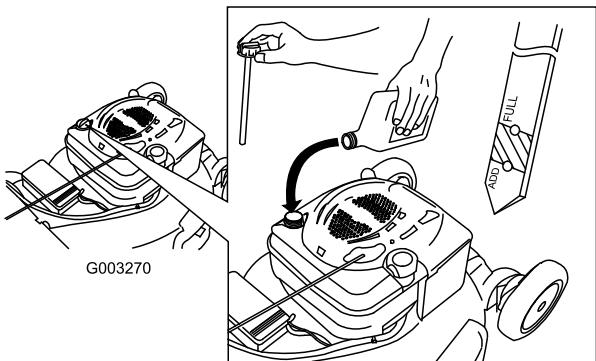

Figure 7
1. Remove the dipstick (Figure 7).
2. Slowly pour oil into the oil fill tube until the oil level reaches the Full line on the dipstick (Figure 7). **Do not overfill.** (Max. fill: 20 oz. (0.59 l), type: SAE 30 detergent oil with an API service classification of SF, SG, SH, SJ, SL, or higher.)